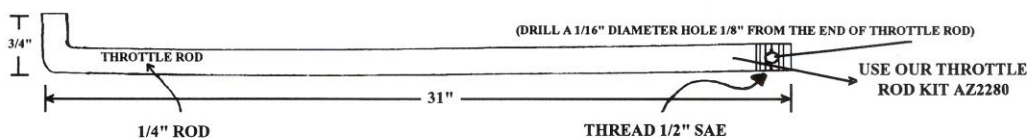

FIGURE 26
16. MAKE A THROTTLE ROD AS SHOWN IN FIGURE 26. RECHECK THE LENGTH OF THE ROD TO MAKE SURE IT IS THE PROPER LENGTH FOR YOUR GO KART. THREAD THE END OF THE ROD 1" USING 1/4" X 28" THREADS, OR USE THROTTLE ROD KIT